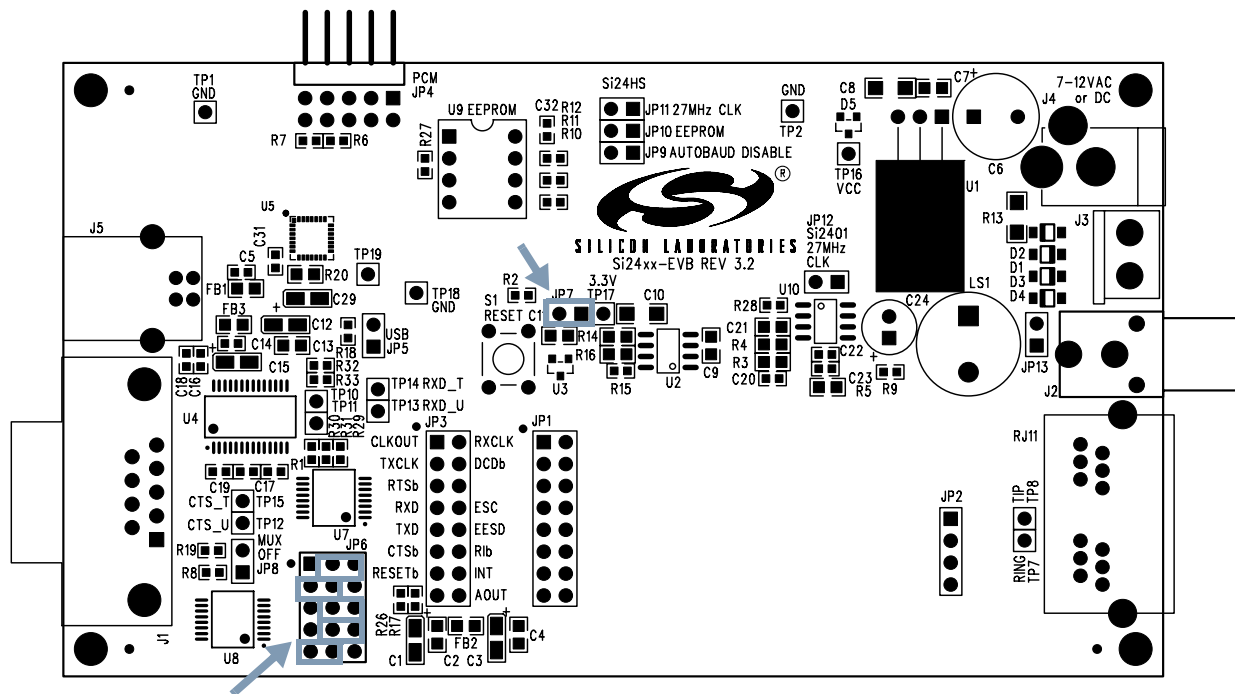

Figure 1. Jumper Settings—RS-232 Interface (Outlined in Gray)
1. Set jumpers according to Figure 1.
Check all jumper settings on the Si2400URT-EVB before applying power. Figure 1 shows the standard factory jumper settings. These settings configure the Si2400URT-EVB for RS-232 serial operation. Any standard terminal program configured to communicate through a PC COM port can be used to communicate with the Si2400URT-EVB. To connect the modem directly into an embedded system with LVCMOS/TTL levels, install JP8 to disable both the RS-232 and USB interfaces. Connection to the embedded system can be made to JP-3. Place a jumper on JP13 to enable the onboard speaker, LS1.
This operation mode uses the standard factory jumper settings illustrated in Figure 1 on page 3. The Maxim MAX3237 transceiver interfaces directly with the TTL levels available at the serial interface of the Si2400 and, using internal charge pumps, makes these signals compatible with the RS-232 standard. The RS-232 transceiver on the Si2400USB-EVB can communicate at rates between 300 bps and 1 Mbps. This simplifies the connection to PCs and other Data Terminal Equipment (DTE). The signals available on the Si2400USB-EVB serial interface (DB9 connector) are listed in Table 4.